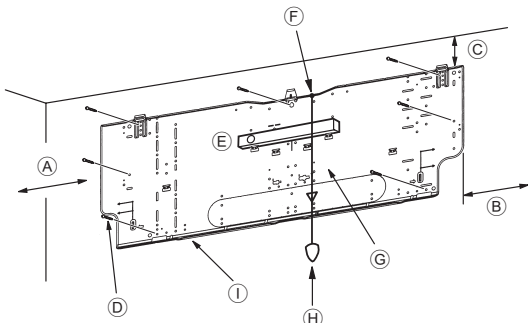
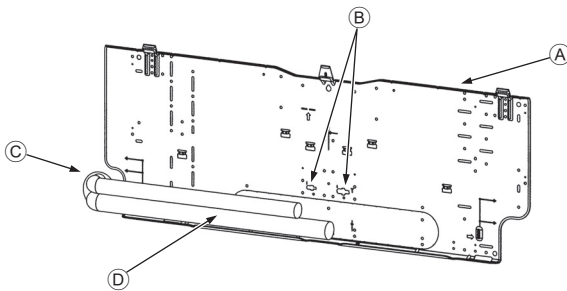

Fig. 3-4
Fig. 3-5
■ PKFY-P-VKM-E (Fig. 3-4)
- Ⓓ Fixing screws (4 x 25) ②
- Ⓘ Mount board ①
3.3. When embedding pipes into the wall (Fig. 3-5)
- Ⓐ Mount board ①